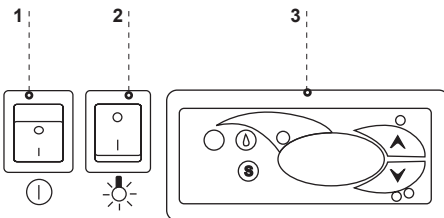

Fig. 6 Control panel
- Turn the main switch on Fig. 6/1 (p. 15), which will activate the thermostat followed by activation of the refrigeration unit
- Set the temperature on the thermostat panel Fig. 6/3 (p. 15) (details on p. 21 or 22)
- Turn the lighting switch on Fig. 6/2 (p. 15)